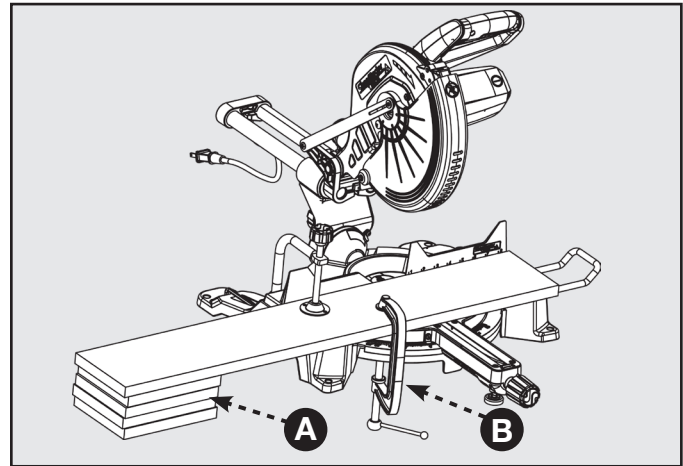

FIGURE 22
In most cases the included table extensions (workpiece supports) will be sufficient to support longer workpieces. If these are not long enough, the workpiece should be supported further out from the saw. Additional support (A) may be used to make the workpiece lay flat on the saw table. Use the included work clamp or a C-clamp (B) to secure the workpiece to the mitre saw table. See Figure 22.